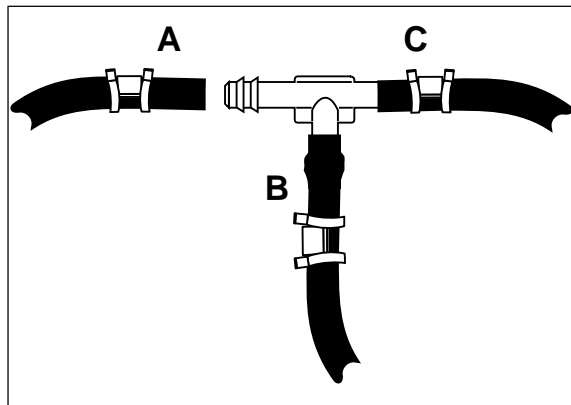

Figure 1
6. Re-attach the panhard rod and shock mounts (Figure 1).